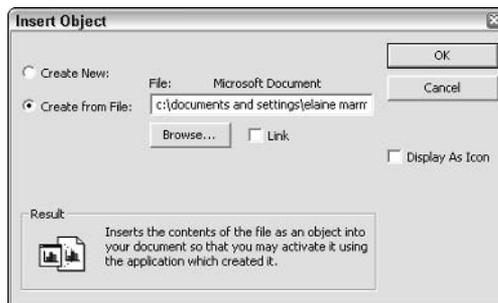

Figure 26-30: Use the Insert Object dialog box to link a Word document to a Project file or embed a Word document in a Project file.
2. Open the Insert Object dialog box, as shown in Figure 26-30.